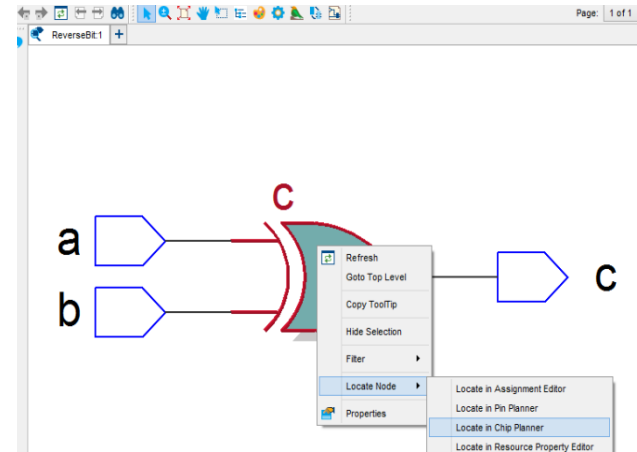

Fig. 4: Setup of the chip planner for MAX 10.
- iii. Locating logic design: Go to RTL viewer from Tools. Then go to Locate Chip Planner, as shown in Fig. 4. Make sure that 2-XOR gate is in coordinate (31, 0).